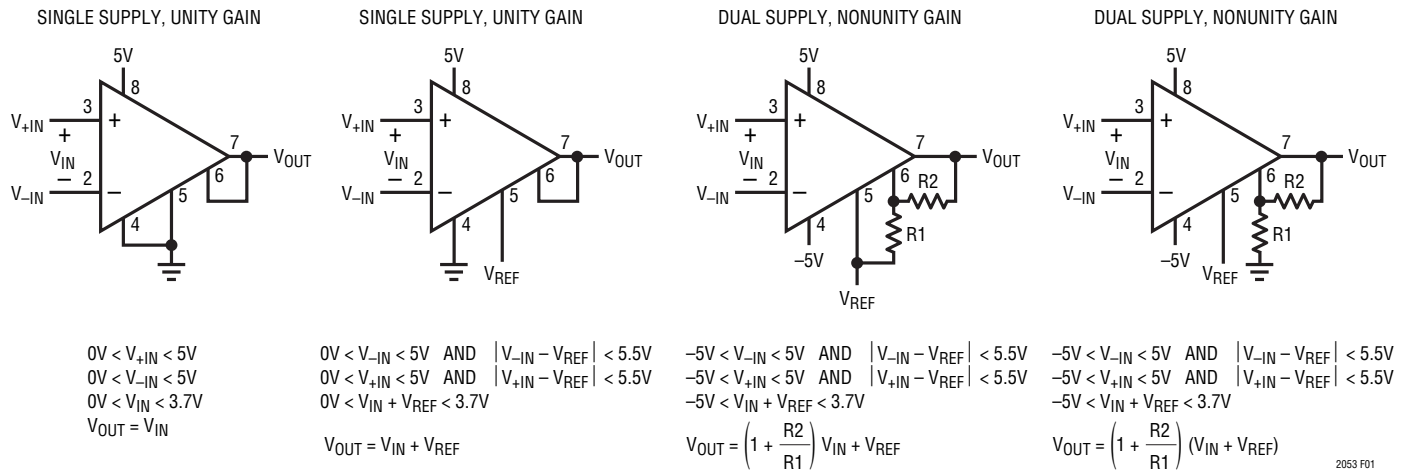

Figure 1
**RG (Pin 6):** Inverting Input of Internal Op Amp. See Figure 1.
**OUT (Pin 7):** Amplifier Output. See Figure 1.